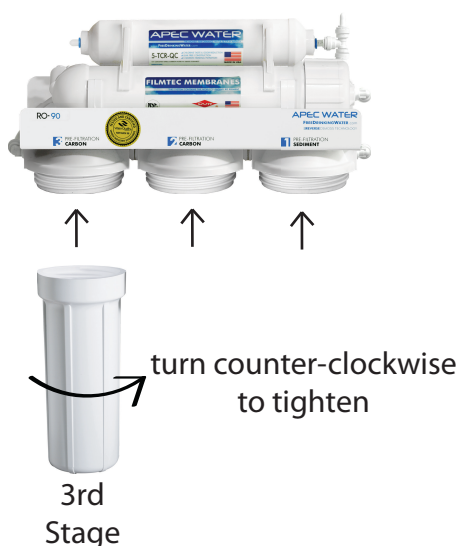

Fig. 3
2. **See Fig. 3** Starting from the 3rd stage housing on the left, hand twist the housing onto the main system turning counterclockwise, one by one, for all 3 housings.